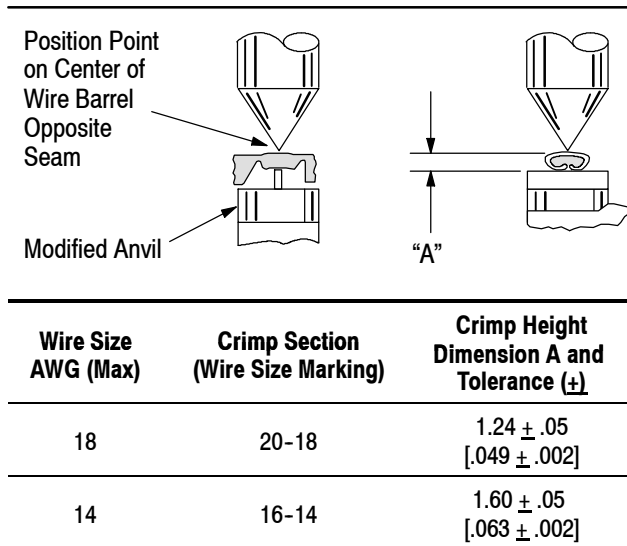

Figure 4
This tool is provided with a crimp adjustment feature. Initially, the crimp height should be verified as specified in Figure 4. Refer to Section 6, CRIMP HEIGHT INSPECTION, and Section 7, RATCHET ADJUSTMENT, to verify crimp height before using the tool to crimp desired contacts and wire sizes.
1. Refer to Figure 4 and select a wire (maximum size) for each crimp section listed.
3. Using a crimp-height comparator, measure the wire barrel crimp height as shown in Figure 4. If the